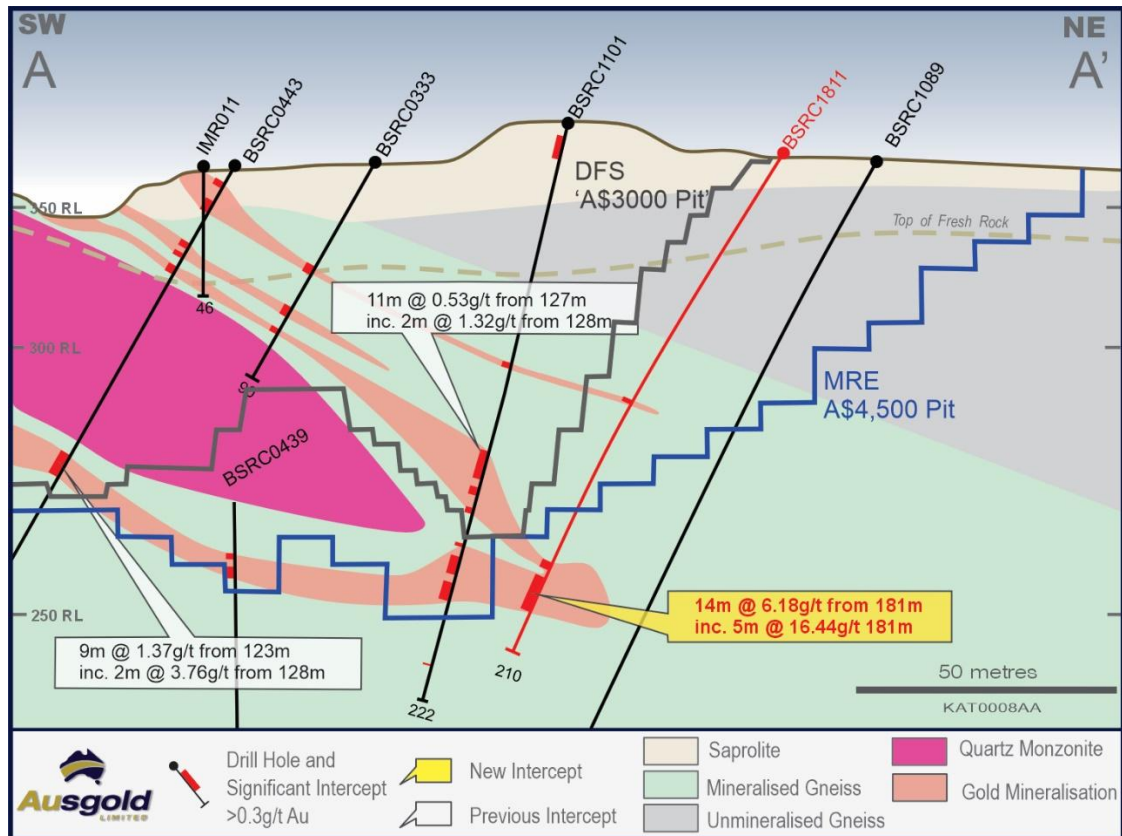

Figure 3 – Cross-section A-A' (6,288,080mN) across the Jinkas -White Dam Lodes with Resource Drilling and Pits
Two holes (BSRC1809 and BSRC1811) have intersected high-grade mineralisation outside the current Mineral Resource (Figures 3 and 4), including:
- **14m @ 6.18g/t Au from 181m including 5m @ 16.44g/t Au from 181m in BSRC1811 (Figure 3)**